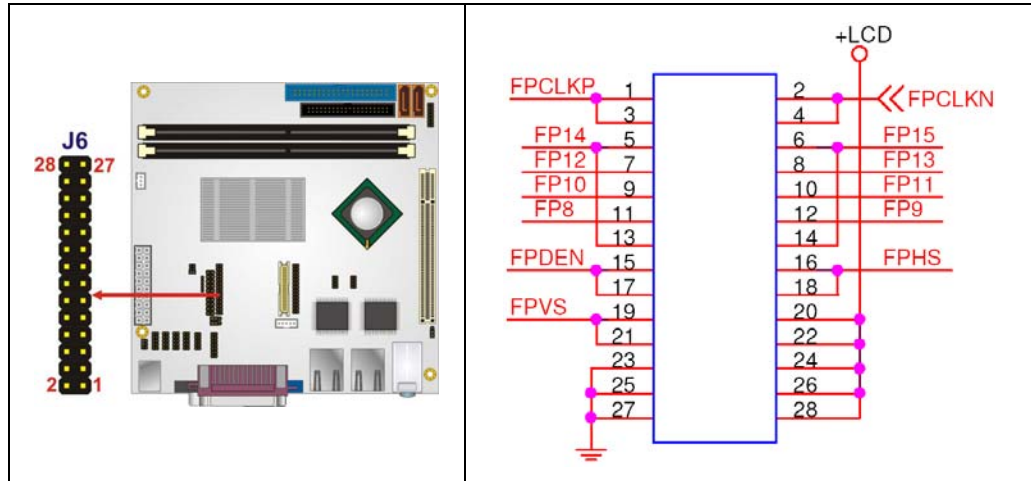

Figure 4-10: LVDS Converter Module Connector 1 Locations
- CN Location:** See Figure 4-10